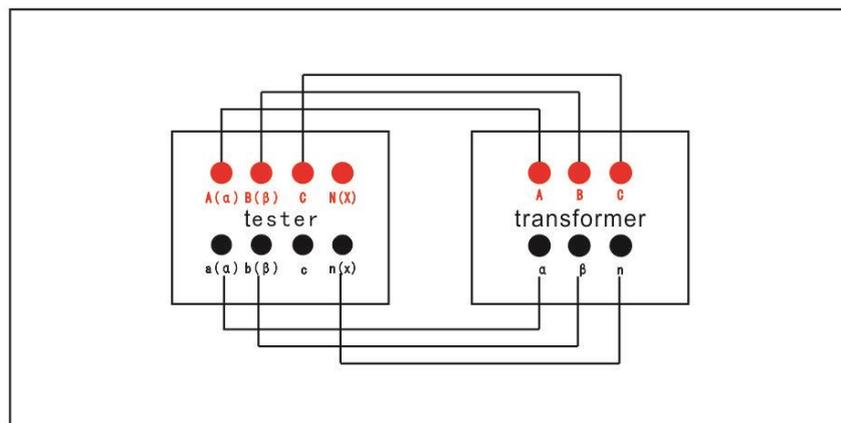

Figure 5
- Three-phase/two-phase transformer is connected according to Figure 5.